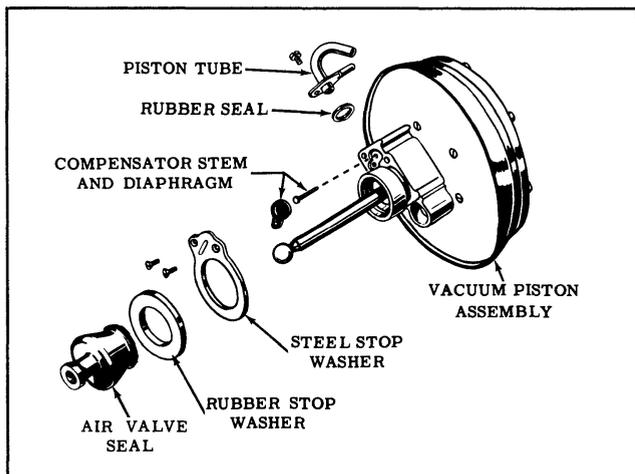

Fig. 7-54 Compensating Stem Installation
14. Install compensating stem into the piston, then install stem diaphragm with the "by-pass" slot up. (See Fig. 7-54)